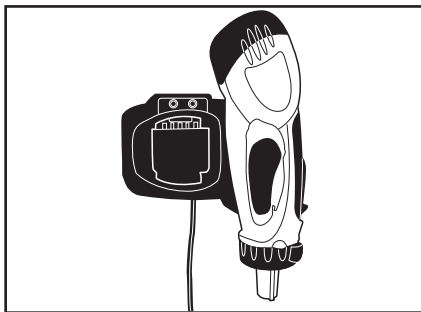

Figure 1
2. Place the Power Handle with battery attached into the wall charge bracket. It is not necessary to remove the tool attachment when charging the battery. (see figure 1)